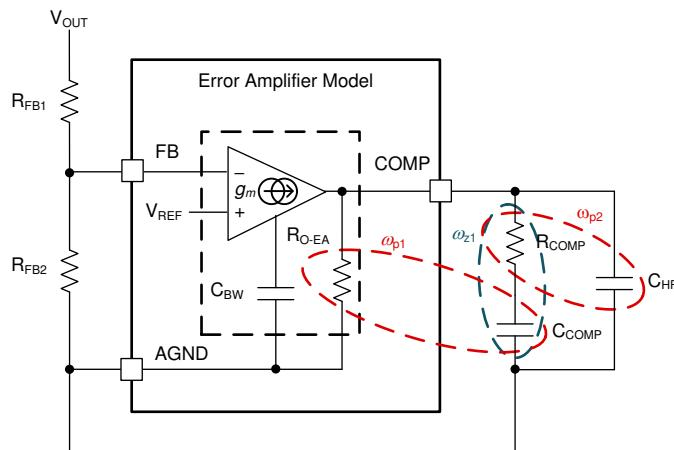

図 9-3. Error Amplifier and Compensation Network
図 9-3 shows a type-II compensator using a transconductance error amplifier (EA). The dominant pole of the EA open-loop gain is set by the EA output resistance,  $R_{O-EA}$ , and effective bandwidth-limiting capacitance,  $C_{\text{BW}}$ , as shown by 式 26.